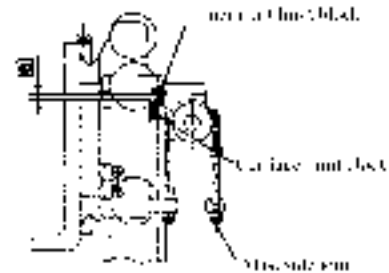

Fig.8.7
- (3) Lift fork to Max. height, and ensure gap  $\square$  between limit blocks of fork and of inner mast shall be 5-10mm. See Fig8.7.